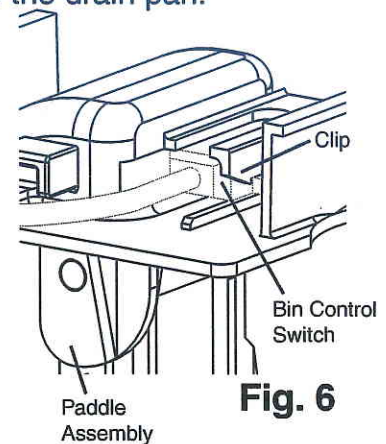

Fig. 6
- 6) Lift up slightly on the clip securing the bin control switch to the paddle assembly and slide the switch out. See Fig. 6.